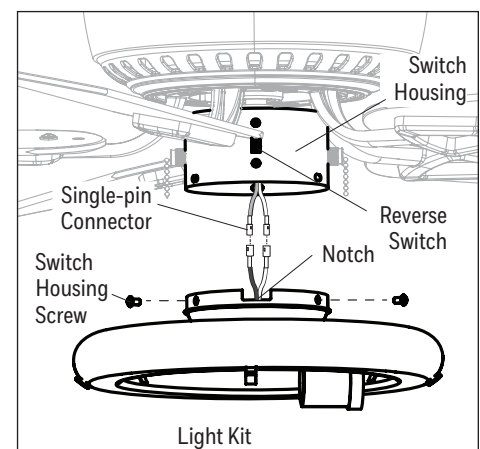

Figure 4.6
- Remove the three switch housing screws from the top edge of the light kit. Then, connect the single-pin connectors from the switch housing to the single-pin connectors from the light kit -- blue to black and white to white. Then, using the three previously removed switch housing screws, secure the light kit to the switch housing. **Note:** Align the notch in the light kit with the reverse switch (Figure 4.6).